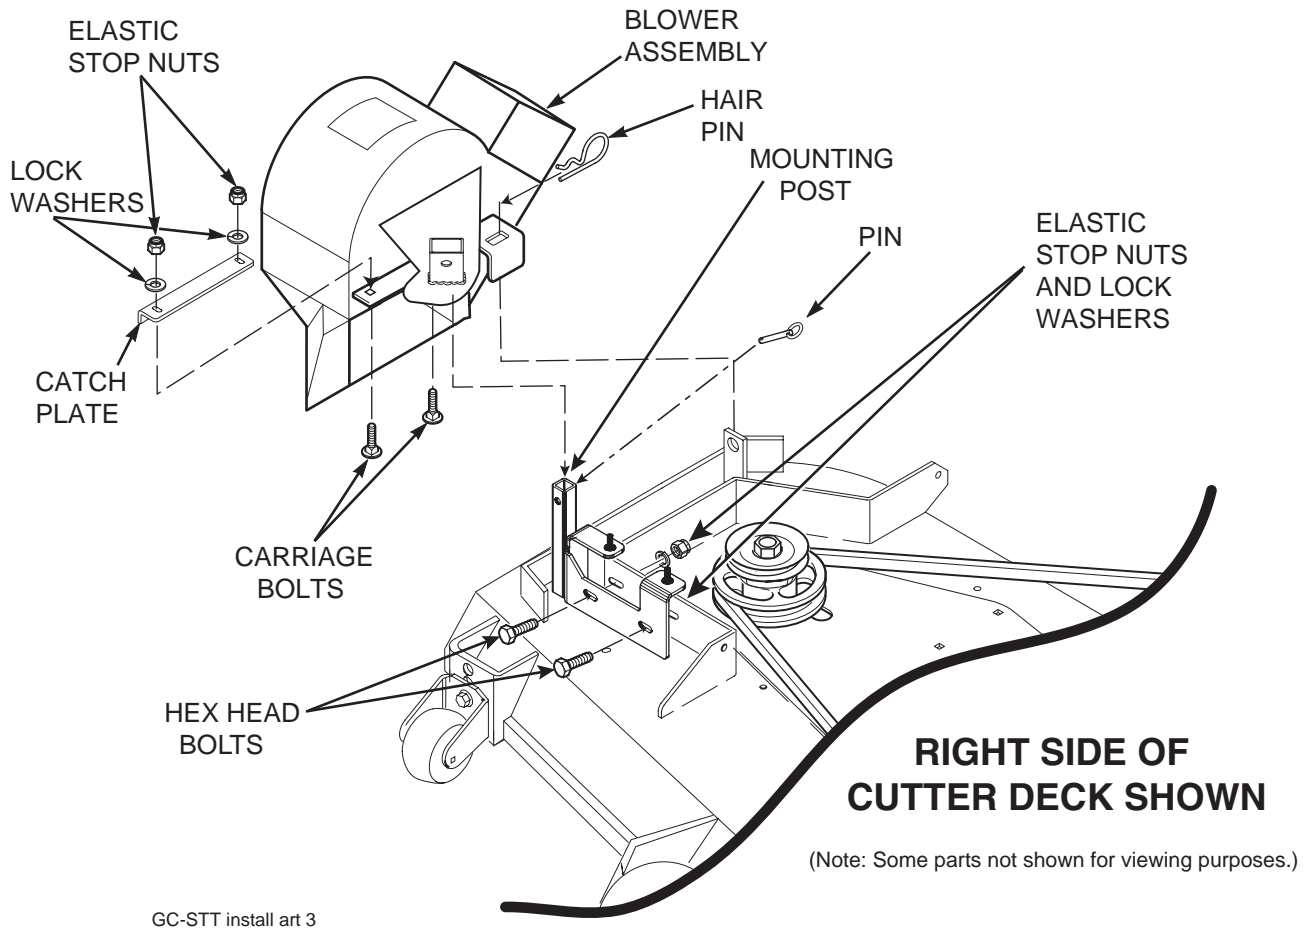

FIGURE 5-3
6. Install the blower mounting bracket to the deck using 1/2-13 x 1-1/2" hex head bolts (p/n 04001-71), 1/2" spring lockwashers (p/n 04030-06), and 1/2-13 elastic stop nuts (p/n 04021-07). See Figure 5-3, Page 12. Do not fully tighten the hardware at this time.
8. Install the catch plate (p/n 423297) to the blower assembly using 3/8-16 x 1-1/4" carriage bolts (p/n 04003-11) facing upward. See Figure 5-3, Page 12. Secure with 3/8" spring lockwashers (p/n 04030-04) and 3/8-16 elastic stop nuts (p/n 04021-09). Do not fully tighten the hardware at this time.
9. Install the blower assembly to the mounting bracket and secure with the mounting pin and large hair pin. See Figure 5-3, Page 12.